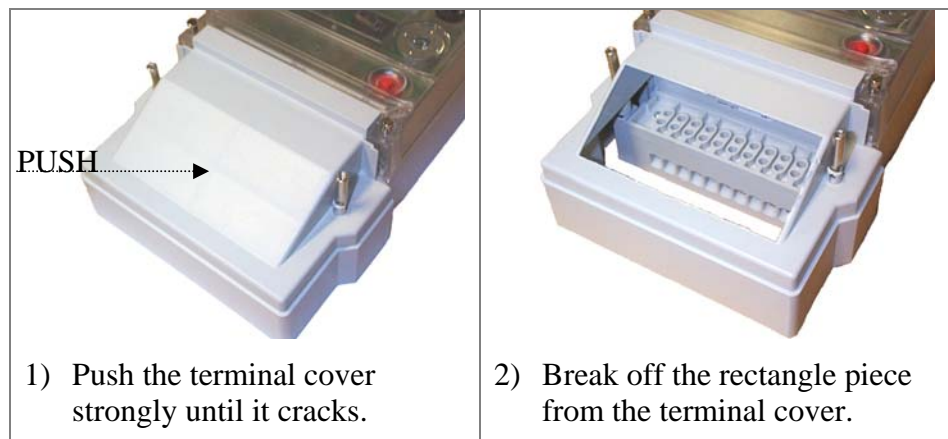

Figure 4. Breaking the terminal cover
- 1) Break the terminal cover (see figure 4).